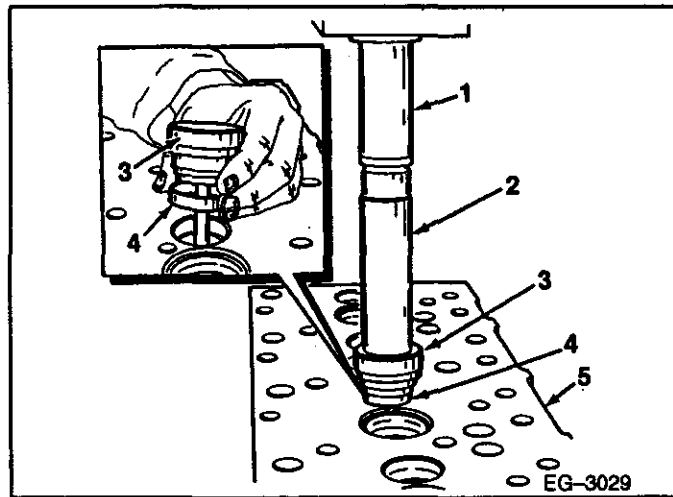

FIGURE 7-48
- c. Press the insert into its counterbore using J39535 for the intake and exhaust valve seat inserts. Refer to **FIGURE 7-48**.